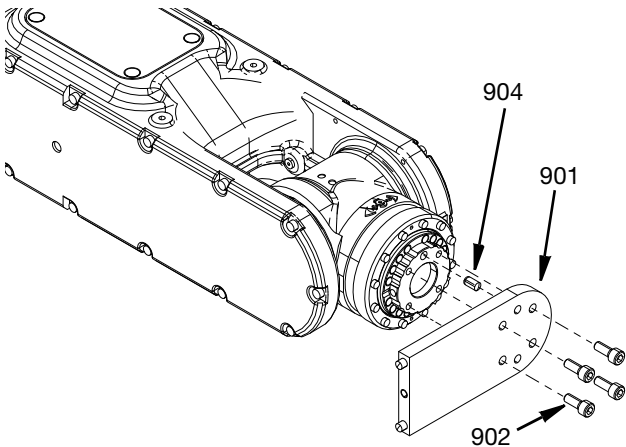

FIG. 12
1. Fasten the Kawasaki 10 kg calibration bracket (901) on the sixth axis of the robot using SCH cap screws (902) and 6mm dowel pin (904). See FIG. 12.